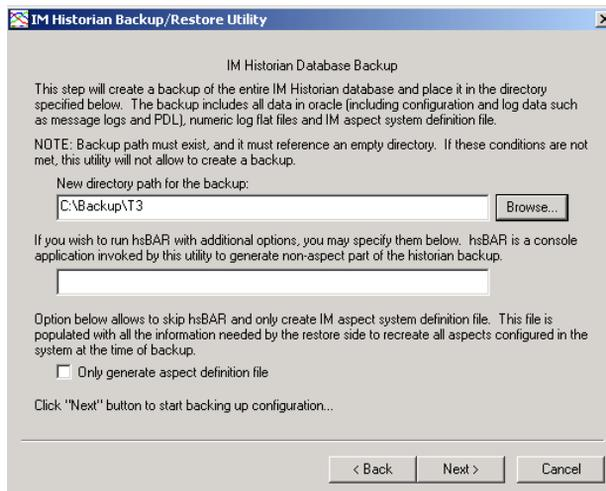

Figure 40. Setting Up the Backup Operation
4. Specify the location where the backup files is to be created in the New Directory Path for the Backup field. This path must already exist and the directory must be empty. If necessary, click **Browse** to create a new directory. See Figure 40.